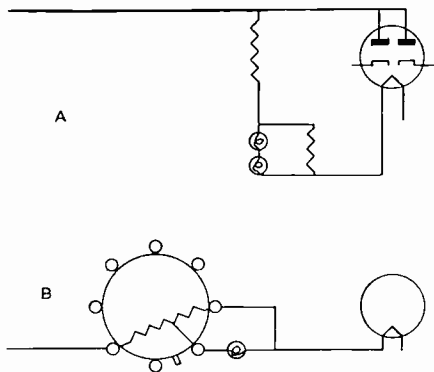

Fig. 3
**Pilot Lamps.** Pilot lamps used in universal receivers are generally connected in series with the tube filaments; the lamps are not designed to handle the usual filament current, and hence are shunted by a resistor in the manner indicated in Fig. 3-A. When a ballast tube is used, a tap is provided at the proper point on its resistor for a pilot lamp connection, as indicated in Fig. 3-B. When a pilot lamp burns out, replace it with a lamp having the same voltage rating and the same color of glass bead around the filament supports. When a ballast tube burns out, replace it with one having the same code number. In receivers using a rectifier such as the 35Z5 a different pilot lamp circuit is often used. (See Fig. 8.)